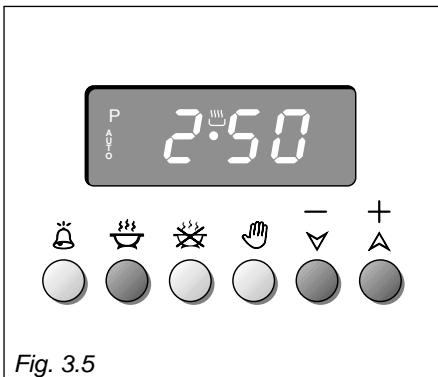

Fig. 3.5
1. Set the length of the cooking period by pushing the  button and the  (+) button to increase, or  (-) button to decrease if you have passed the desired time (fig. 3.5). The **AUTO** and the  symbol will illuminate.